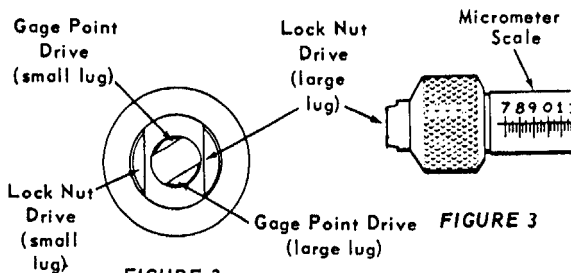

FIGURE 2
2. Examine the Quick-Setting Wrench. Note that the Lock Nut Drive slot is milled off center, making one lug larger than the other, and that the same is true concerning the Gage Point Drive slot. See Figure 2. Note also that the large lug of the Lock Nut Drive slot is in line with the Micrometer Scale of the Wrench (see Figure 3).